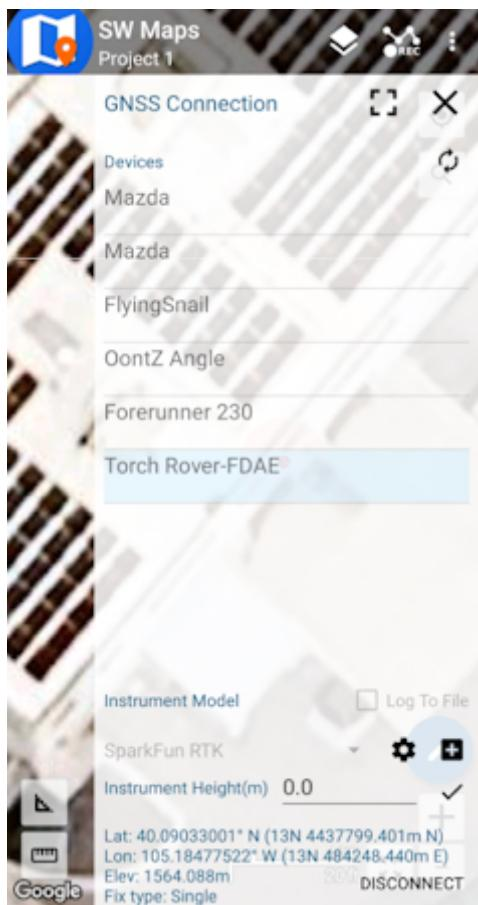

Figure 4
6. Press the SW Maps icon in the top left corner of the home screen and select **Bluetooth GNSS**. You should see the 'EVK Rover-3AF1' in the list. Select it. Confirm that the *Instrument Model* is **SparkFun RTK**, then press the 'Connect' button in the bottom right corner (Figure 4). SW Maps will show a warning that the instrument height is 0m. That's ok.